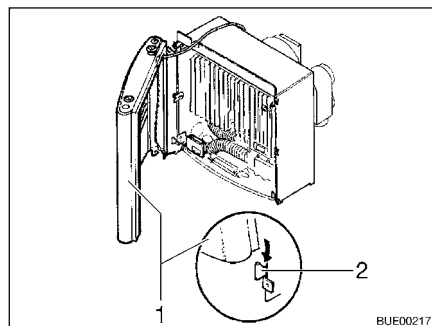

Fig. 117 Heater cover, retaining clips
- Mount the heater cover. To do this, place the cover (Fig. 117,1) on the lower retaining clips (Fig. 117,2).